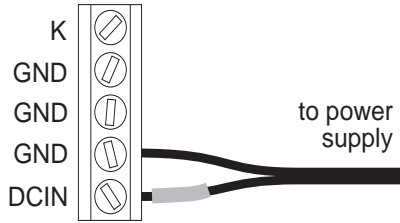

Figure 2-1. OP7100 Power Supply Connections at Header J8
1. Remove the green power connector shown in Figure 2-1 from the back of the OP7100.
2. Attach the bare leads from the power supply to the power connector as shown in Figure 2-1.